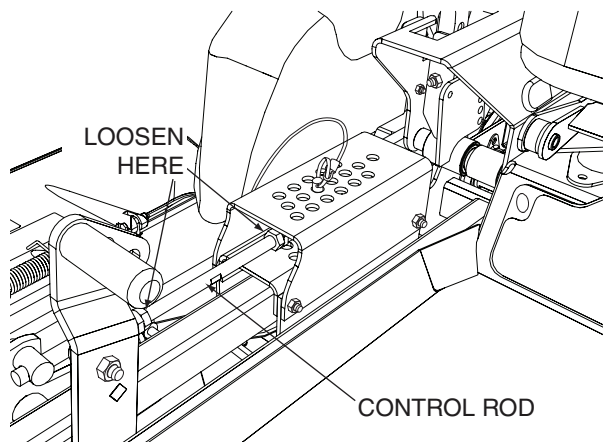

Figure 6-7. Cutter Deck Height Adjustment
3. Loosen the jam nuts on both ends of the deck height control rod. See Figure 6-7.
4. Turn the control rod (See Figure 6-7) until the measurement from the floor to the cutter blade tip is at 4-1/2". Tighten the jam nuts on the control rod.